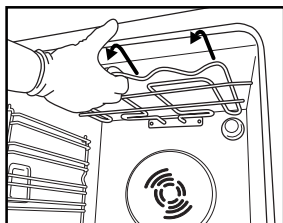
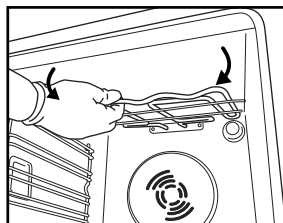

Fig. 7
Fig. 8
2. Pull the heating element out a little (Fig. 7) and lower it (Fig. 8).